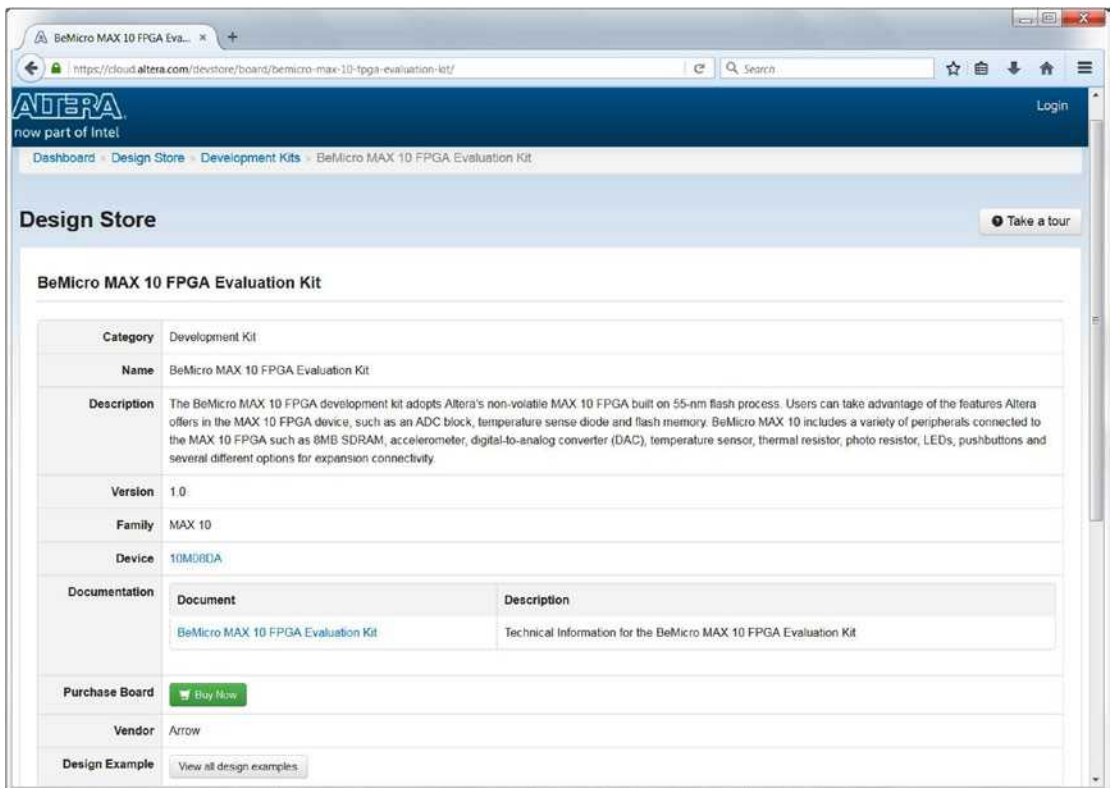

Figure 4-8. Altera Design Store—BeMicro MAX 10 FPGA Evaluation kit
- 9. Click **View all design examples** in the page as shown in Figure 4-8.